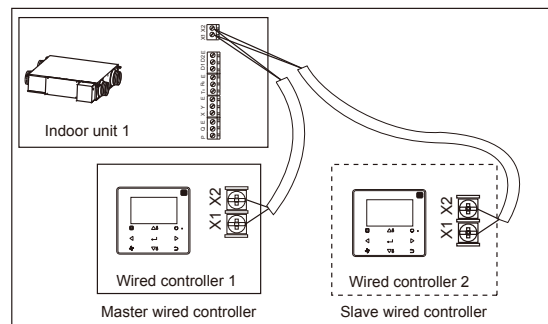

Fig. 4-4
- Use 1 wired controller to control 1 indoor unit or 2 wired controllers (one master and one slave controller) to control 1 indoor unit.(see Fig.4-4)